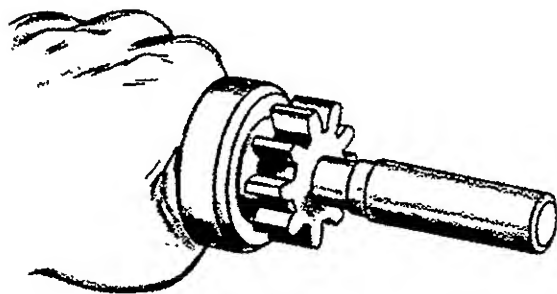

FIGURE 46. TOOL FOR DRIVING PINION STOPPER
5. **Solenoid Starter Only:** Remove the ring after driving the pinion stopper toward the pinion gear using a cylindrical tool (Figure 46). Remove the overrunning clutch and the pinion stopper at the same time.